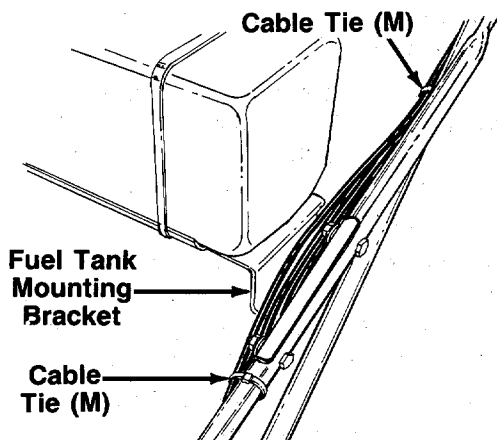

FIGURE 13.
20. Secure all cables to the left handle and strut bar as follows. See figure 13.
- a. Insert the tab on one cable tie (M) into the hole provided on the inside of the lower handle, above the fuel tank mounting bracket. Secure the cables to the lower handle.
- b. Using the other cable tie, secure the cables to the left hand strut as shown in figure 13.
There is no hole provided in the strut bar to anchor the second cable tie. Simply position as shown in figure 13.